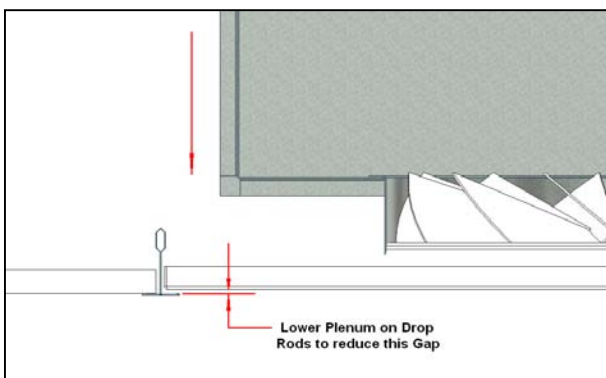

Figure 7: Lower Plenum to close gap
7. This operation may cause the Diffuser to be lifted off the ceiling grid creating a gapping effect (figure 7). If this occurs, adjust the height of the Plenum and Diffuser by raising or lowering the assembly using the lock nuts on the Plenum Drop Rods until the desired effect is acquired.